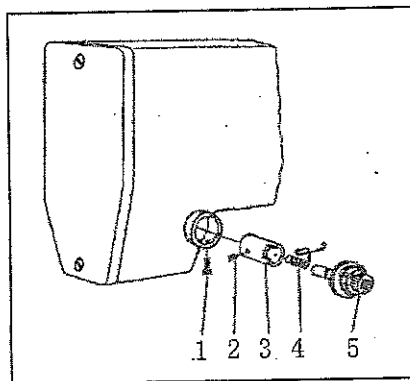

Fig.13
22. The thread take up spring tension adjustment(Fig.13)